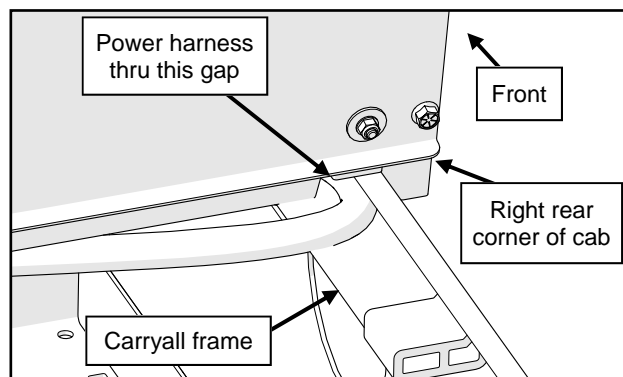

Fig. 2.4 (Power Harness Routing)
- 2.4** Locate the power supply harness (9SV-WH-00065). Route the power supply harness from the rear engine compartment, through the small hole below the rear panel, passenger-side end. Orient the harness so that the alternator plug and the fuses will all remain in the engine compartment. Feed through up to the large bundle of wires on the harness. Figures 2.4 and 2.4a.